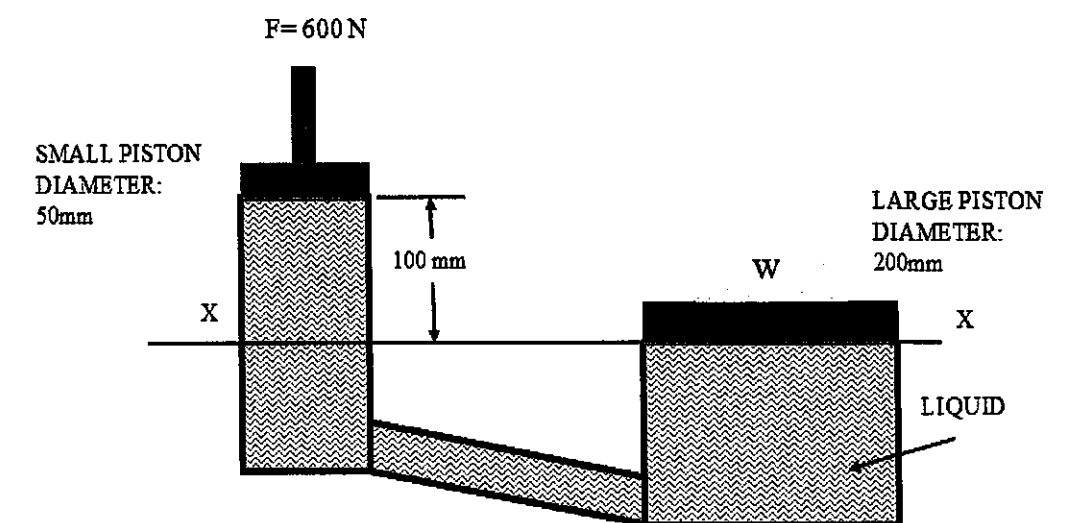

Figure 2(b) / Rajah 2(b)
- b) A force of 600 N is applied on the small piston for the hydraulic jack system shown in **Figure 2(b)**. Compute the load lifted by the large piston if the specific weight of the liquid in the jack is 9810 N/m^3 .